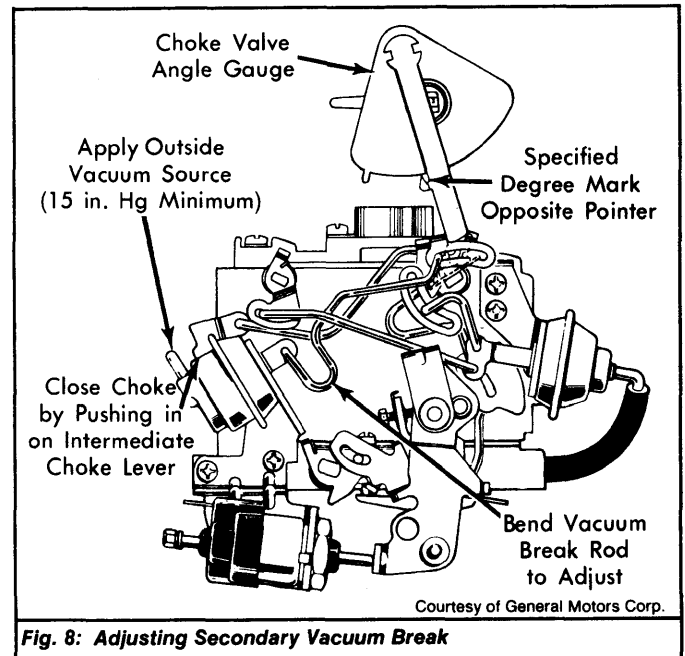

Fig. 8: Adjusting Secondary Vacuum Break
1) Using an outside vacuum source of at least 15 in. Hg, seat vacuum secondary vacuum break diaphragm. Close choke valve by pushing in on intermediate choke lever. See Fig. 8.